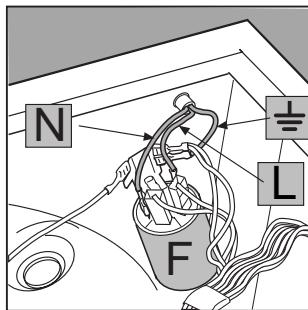

Fig. 4
- 3. Disconnect the wires from the radio interference suppressor F** [fig. 4] noting as to their position (**Blue=N** wire; **Brown=L** wire) leaving the earth wire until last \pm .